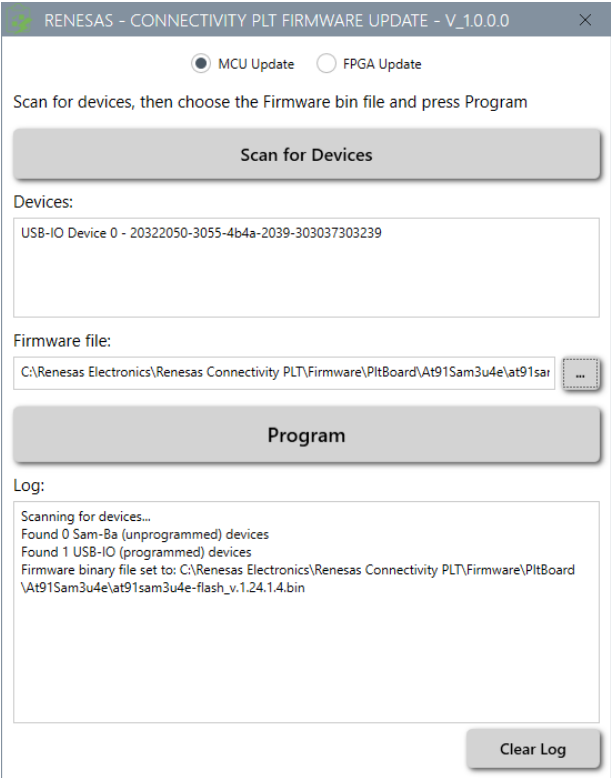
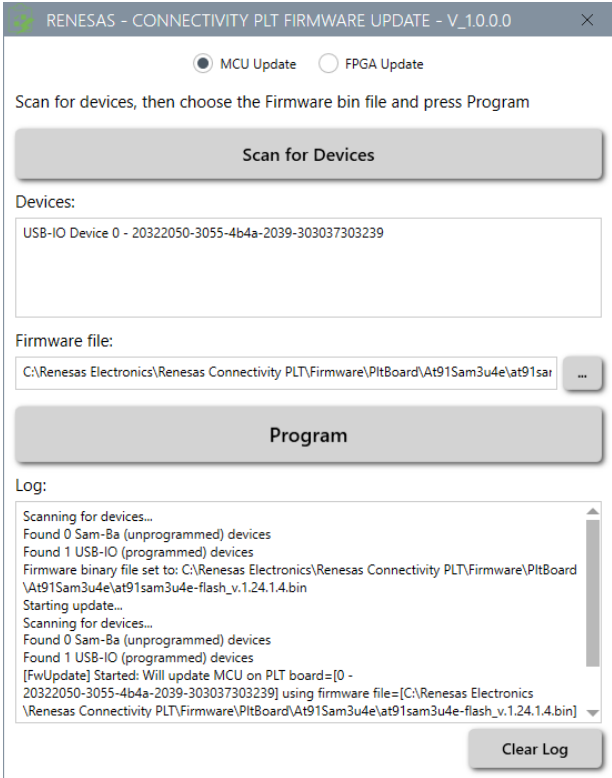

Figure 115. Firmware update - .bin file loading
Figure 116. Firmware update - Programing
4. Click **Program**. See Figure 115 and Figure 116.